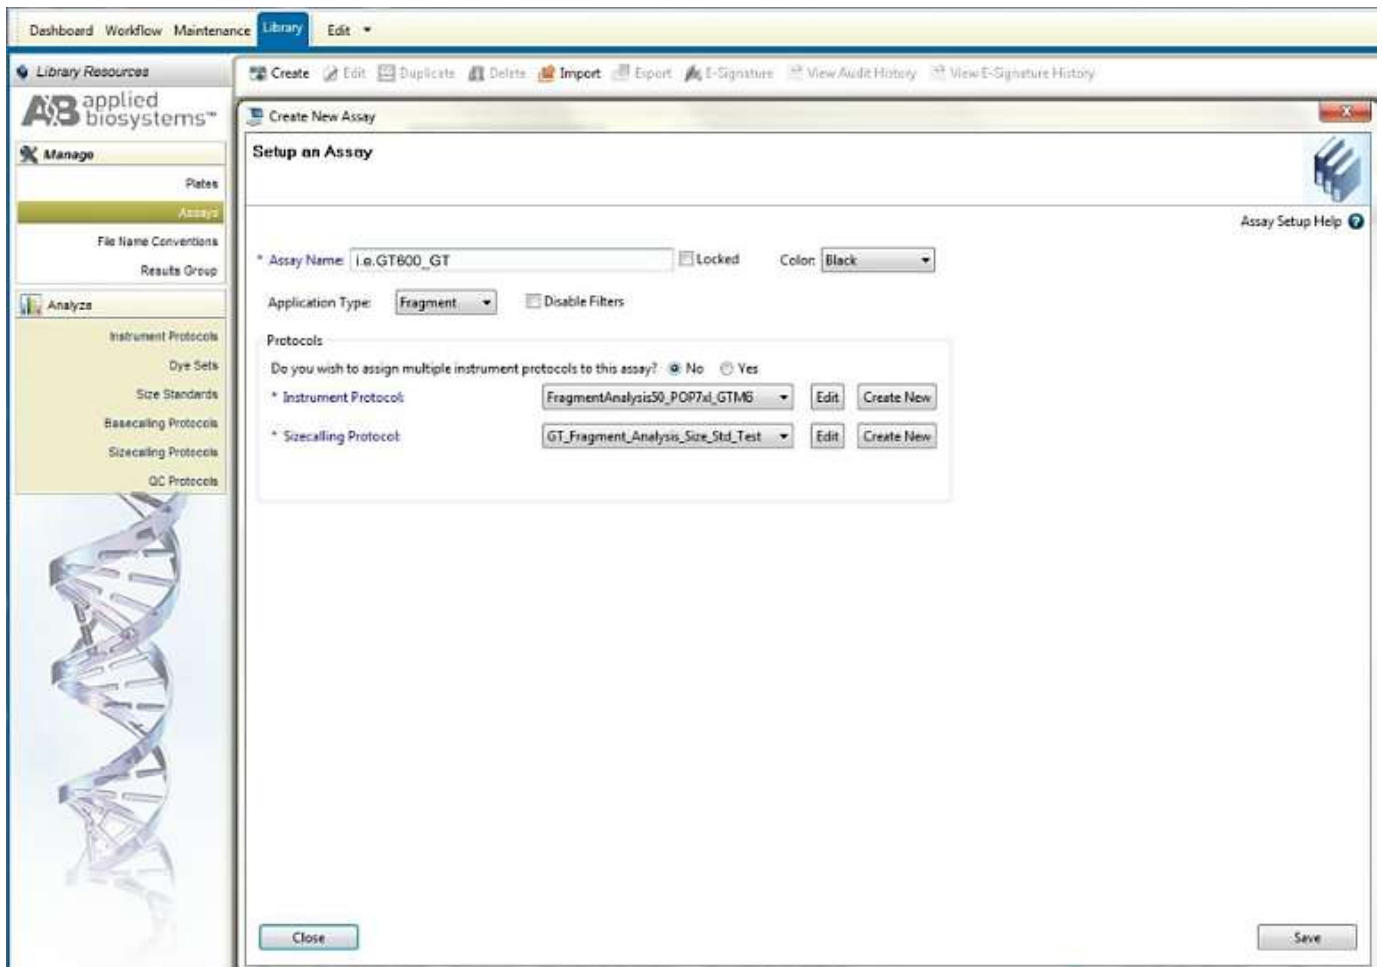

Figure 9- Screenshot for the “Create New Assay” window on Applied Biosystems 3500 Data Collection software.
6. Select “Create” (Figure 9).